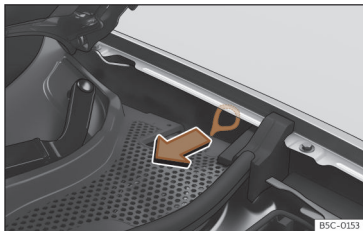

Fig. 59 Between the left wing panel and the engine bonnet hinge: Charging connector manual release mechanism puller.
The puller for the manual release mechanism is on the left hand side of the engine compartment, above the charging socket >>> Fig. 59.
- Pull the puller >>> Fig. 59.